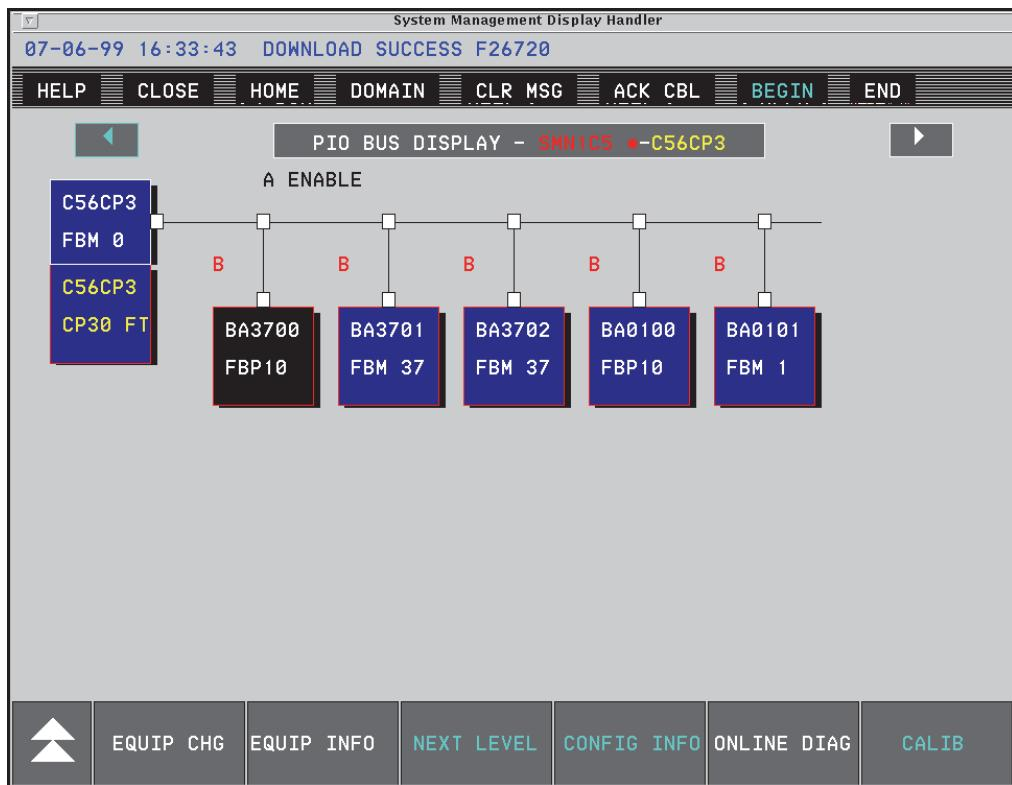

Figure 4-1. PIO Bus Display (Typical - SMDH)
- ◆ A Fieldbus-level display (**PIO BUS** display), which shows the DCS Fieldbus Module subsystem (portrayed as Fieldbus Modules, FBMs) along with the host control processor (CP) and any other Fieldbus devices (see Figure 4-1 for SMDH display)